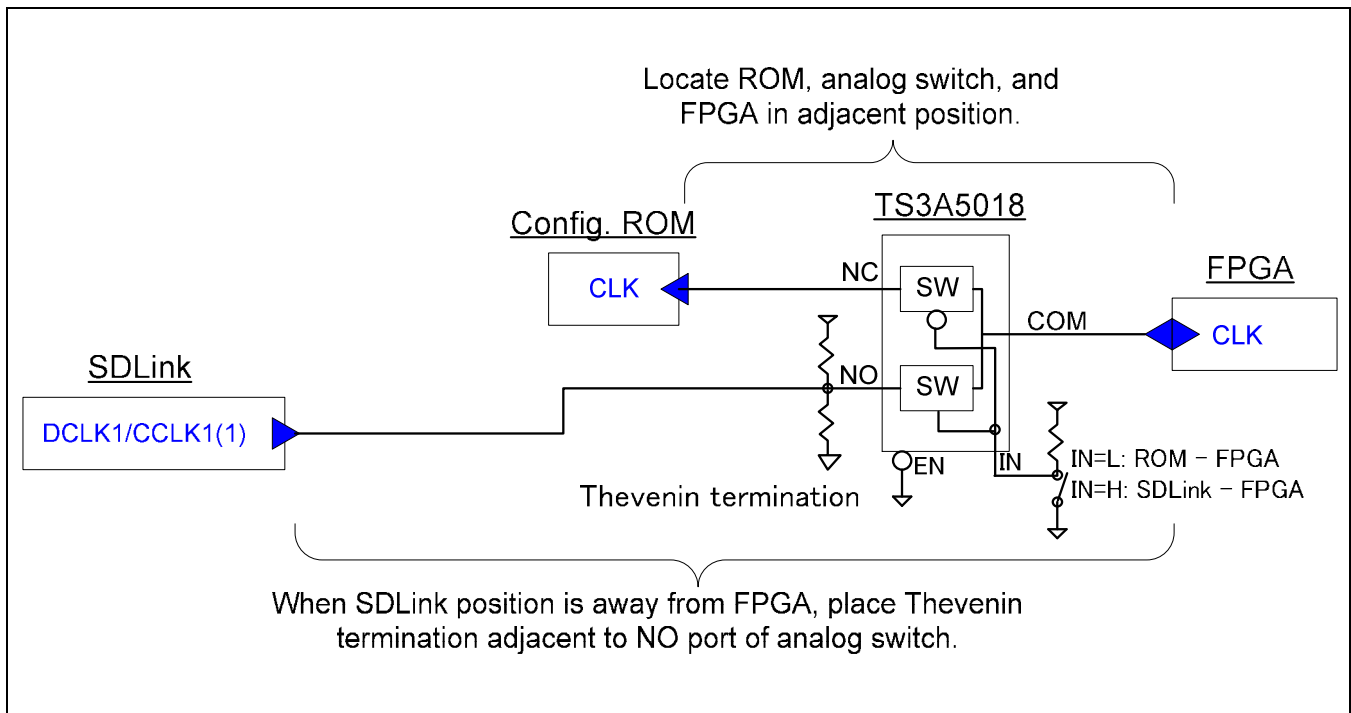

Figure3: Configuration clock using TS3A5018
- Figure3 below shows clock signal connection diagram.